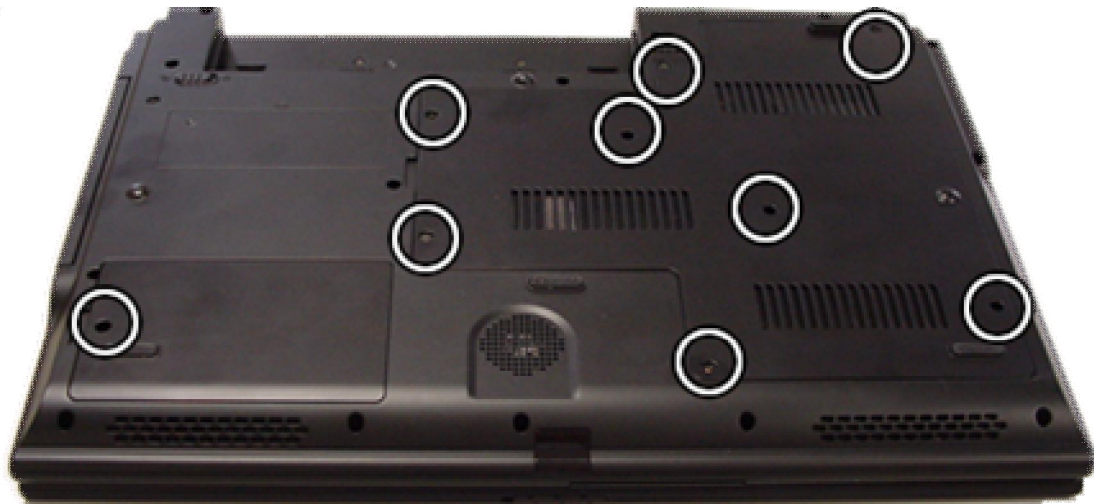

Fig. 13 *The bottom base screws.*
2. Remove the screws of the cover on the bottom base (see Fig 13).